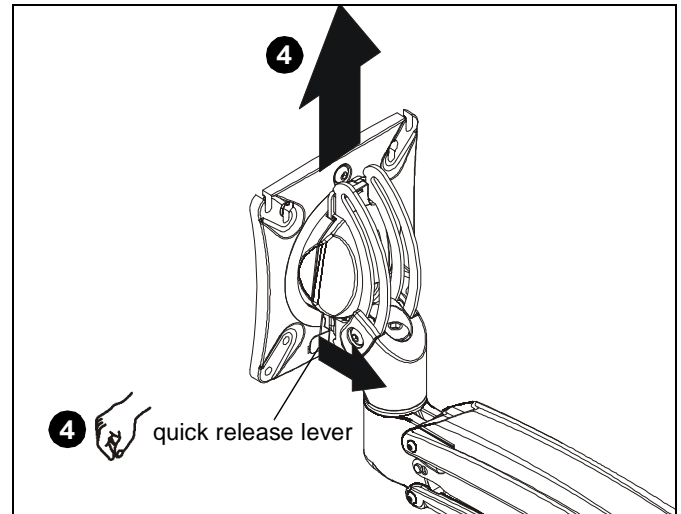

Figure 3
4. Remove existing quick release faceplate from monitor arm by pulling quick release lever and lifting faceplate from arm. (See Figure 3)